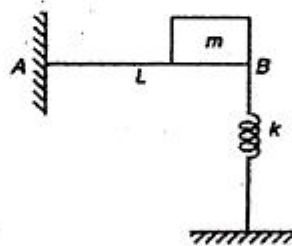

Figure 2.12
**EXAMPLE 2.6** A cantilever beam AB of length  $L$  is attached to a spring  $k$  and a mass  $M$  as shown in Figure 2.12. (a) Form the equation of motion; and (b) Find an expression for the frequency of motion.